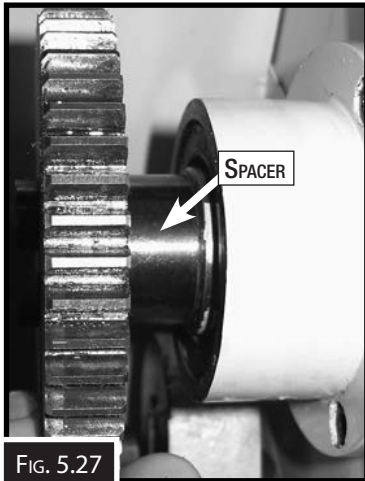

FIG. 5.27
10. If required slide the spacer onto the spindle, (Fig. 5.27) then slide the gear on the shaft. If the spacer is not required then place the gear on the shaft so that the shoulder is then placed against the bearing (Fig. 5.28).